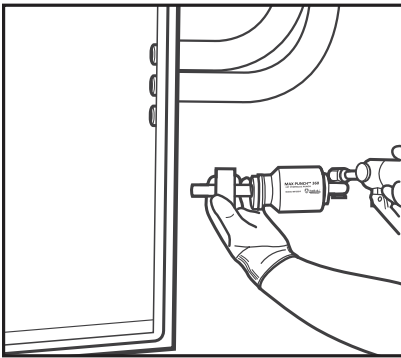

Fig. 3
4. Insert cup onto draw stud facing panel (Fig. 3).